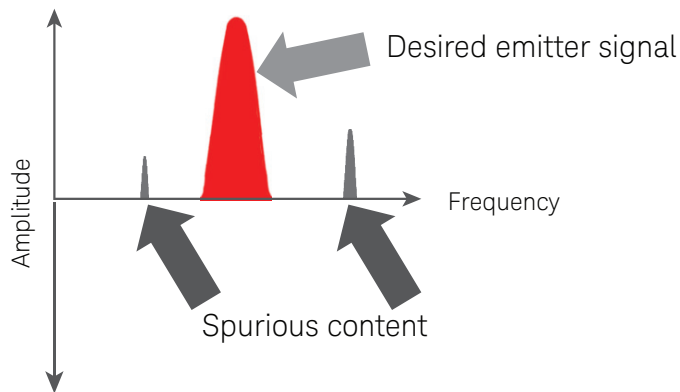

Figure 2. Spurious content can create false threats and Radar returns, resulting in incorrect test scenarios.
- **Spurious Free Dynamic Range (SFDR).** SFDR is the ratio of the amplitude of the applied or fundamental signal generated by the source to the value of the strongest spurious signal in the output (largest harmonic). A high SFDR is vital in EW simulation to adequately test environments where large ranges of threat amplitudes may be present, as falsely generated threats create incorrect test scenarios (Figure 2). This is especially important in EW simulation due to the high sensitivities of receivers tested.